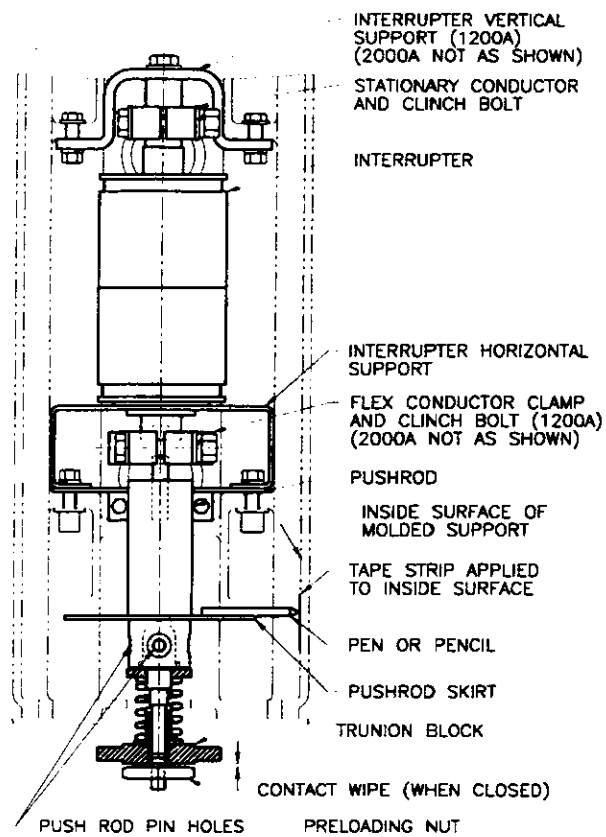

Fig. 5 - Contact Pressure
3. Contact Wipe (Fig. 5): The contact wipe is set at the factory to .090"-.105" for the 750 & 250 MVA breakers, and .123"-.164" for the 500 MVA breakers, by adjusting the vertical position of the push rod and vacuum interrupter. This should not be changed in the field unless a change in contact sequence is required.
4. Contact Gap (Fig.5): The contact gap is set at the factory to the range of .31"-.48". This value will increase as the contacts erode. An inspection of the contact gap insures that the breaker is fully opening, and the resulting gap is sufficient to withstand the applied voltage.
5. Contact Sequencing (Fig. 5). All three poles should make contact within two milliseconds of each other, at normal closing speeds, and have been adjusted so at the factory. An oscilloscope, oscillograph or other timing method may be used to check the two millisecond timing.